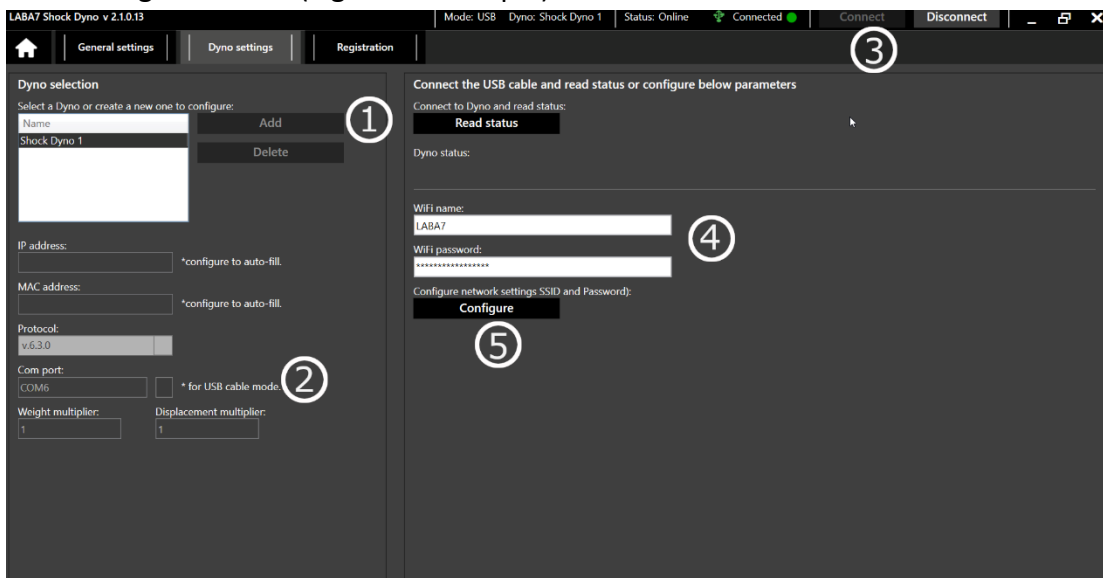

Figure 19
7. Press “add” (Figure 19 – Step 1).
8. From 2 newly appeared com-ports select `COM6 - LABA7 Dyno` (Figure 19 – Step 2).
9. Press “Connect” (Figure 19 – Step 3).
10. Enter Wi-Fi name and password into the corresponding fields (Figure 19 – Step 4).
11. Click on Configure button (Figure 19 – Step 5).